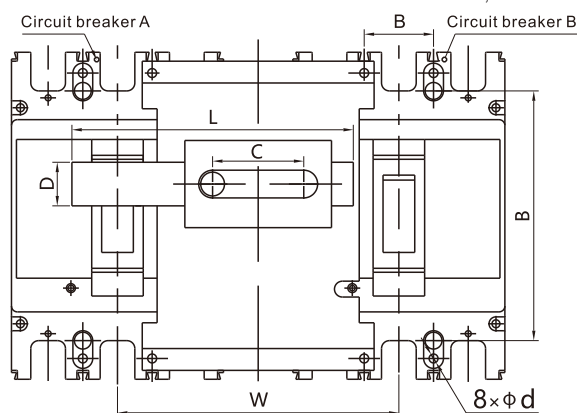

Fig 6 Mechanical interlock dimension diagram
5.23 Installation dimension of Mechanical interlock of two circuit breakers, see Table 6 Fig 6 and Table 8.